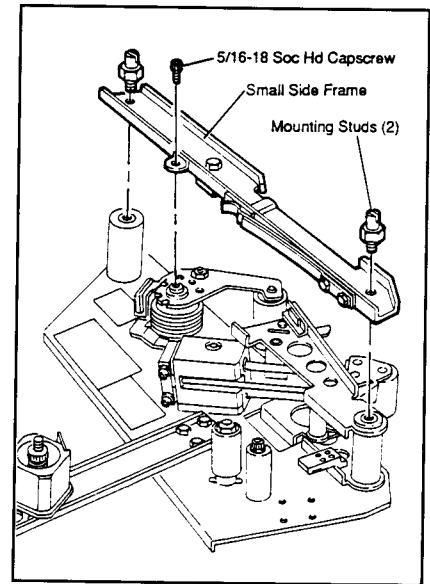

Figure 14
8. Replace the small side frame on the taping head with (2) mounting studs and 5/16-18 socket head capscrews as shown in Figure 14.